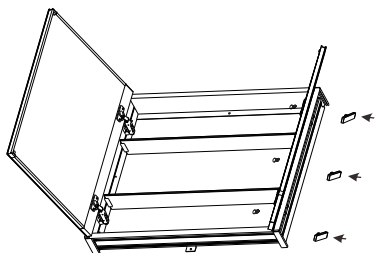

Fig.4
- 2.2 Lock the side fixing block to the cabinet with screws (Fig.4).